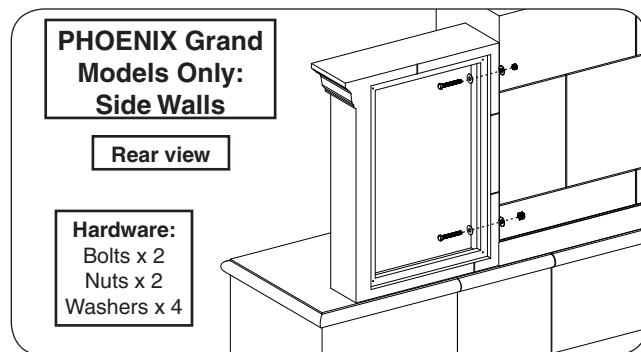

Fig. 20-1 Assemble side-wall (skip if n/a)
1. Place one main side-wall piece beside the fireplace body as shown. Carefully align the pilot holes, and repeat the hardware installation process. See Fig. 20-1.